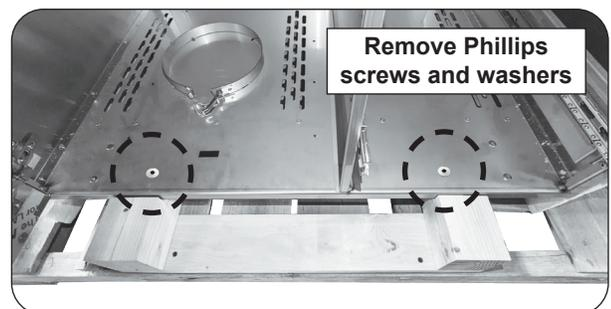

Fig. 9-3 Remove two front screws/washers
- b. Release the drawer from the drawer slides by pressing the black lever down on the right side, and up on the left side and pull the drawer free from the slides. See Fig. 9-3.
4. Open the cabinet door. Using a Phillips head screwdriver, remove the two front mounting screws and washers to detach the cart base from the pallet. See Fig. 9-3.